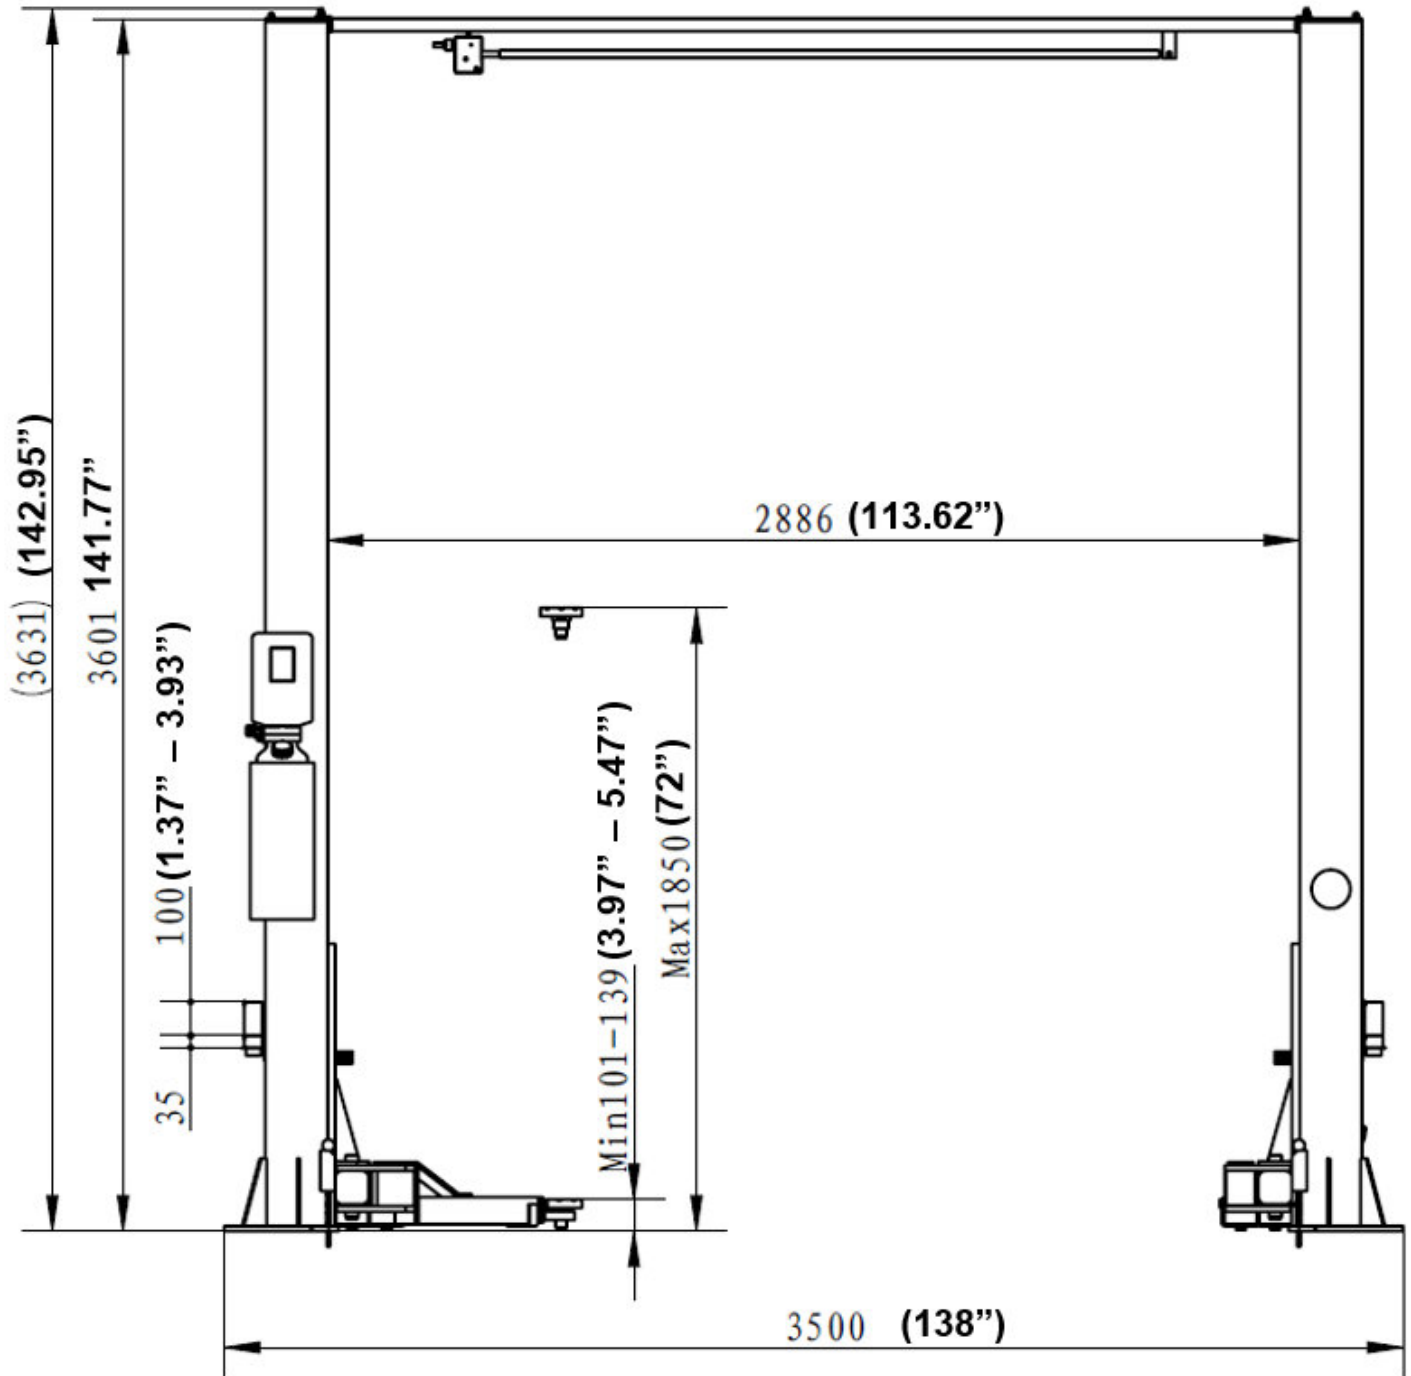
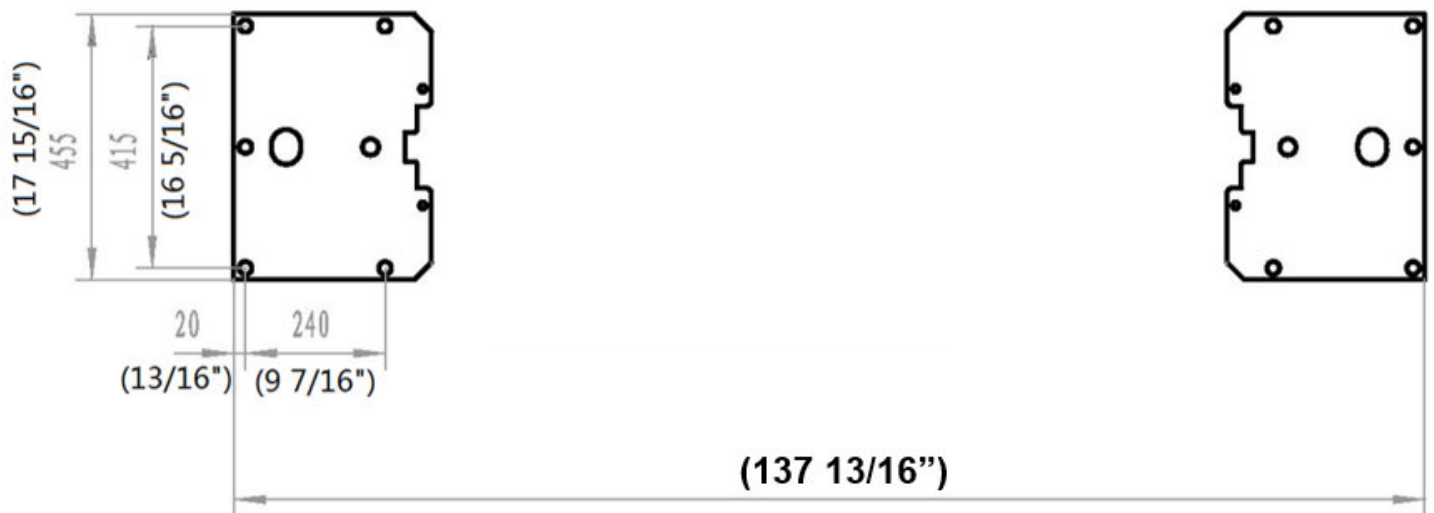

Fig. 2
Fig. 3
1. **LIFT LOCATION:** Always use architects plans when available. Check layout dimension against floor plan requirements making sure that adequate space is available (**Fig. 2, 2a, 2b & Fig. 3**).
2. **OVERHEAD OBSTRUCTIONS:** The area where the lift located should be free of overhead obstructions such as heaters, building supports, electrical lines etc. **(Fig 2.)**
3. Once a location is determined, use a carpenter's chalk line to layout a grid for the post locations. (See Fig. 3)